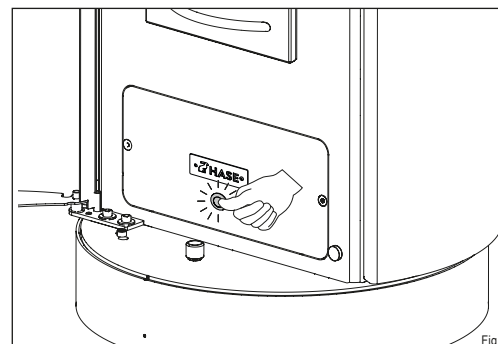

Fig. 9
- **Press the On/Off switch (Fig. 9).**